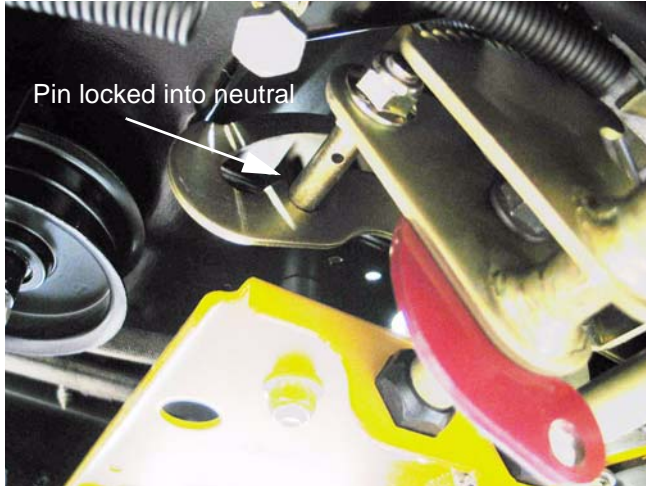

Figure 31.28
31.28. To adjust the hydro control rod: Find the Neutral position for the control pedal, and set the parking brake. The cam in the parking brake mechanism will lock the pin on the pedal shaft into Neutral. See Figure 31.28.